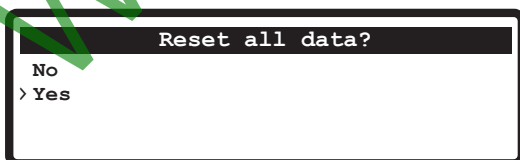

Fig. 67
- It is possible to delete all job's data (Fig. 67).
- The screen of Fig. 67 will be displayed: select **Yes** and press **OK**.